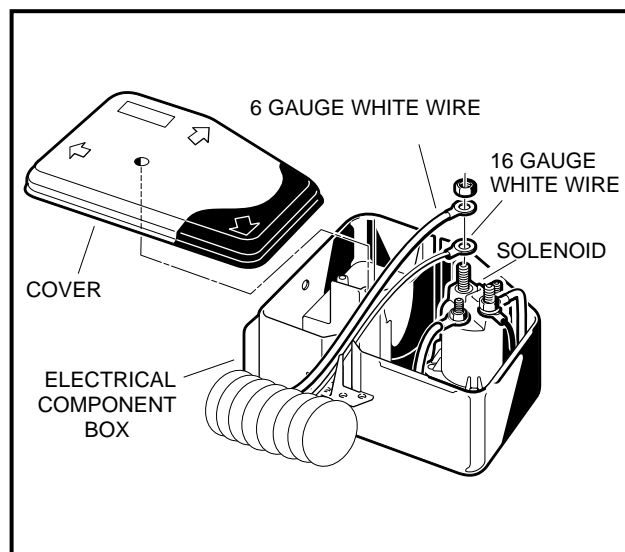

Figure 11-29 Remove Solenoid Wires
5. Remove the 6 and 12 gauge white wires from the large post of the solenoid. Do not allow the wires to touch the frame or other components of the vehicle (**Figure 11-29, Page 11-26**).